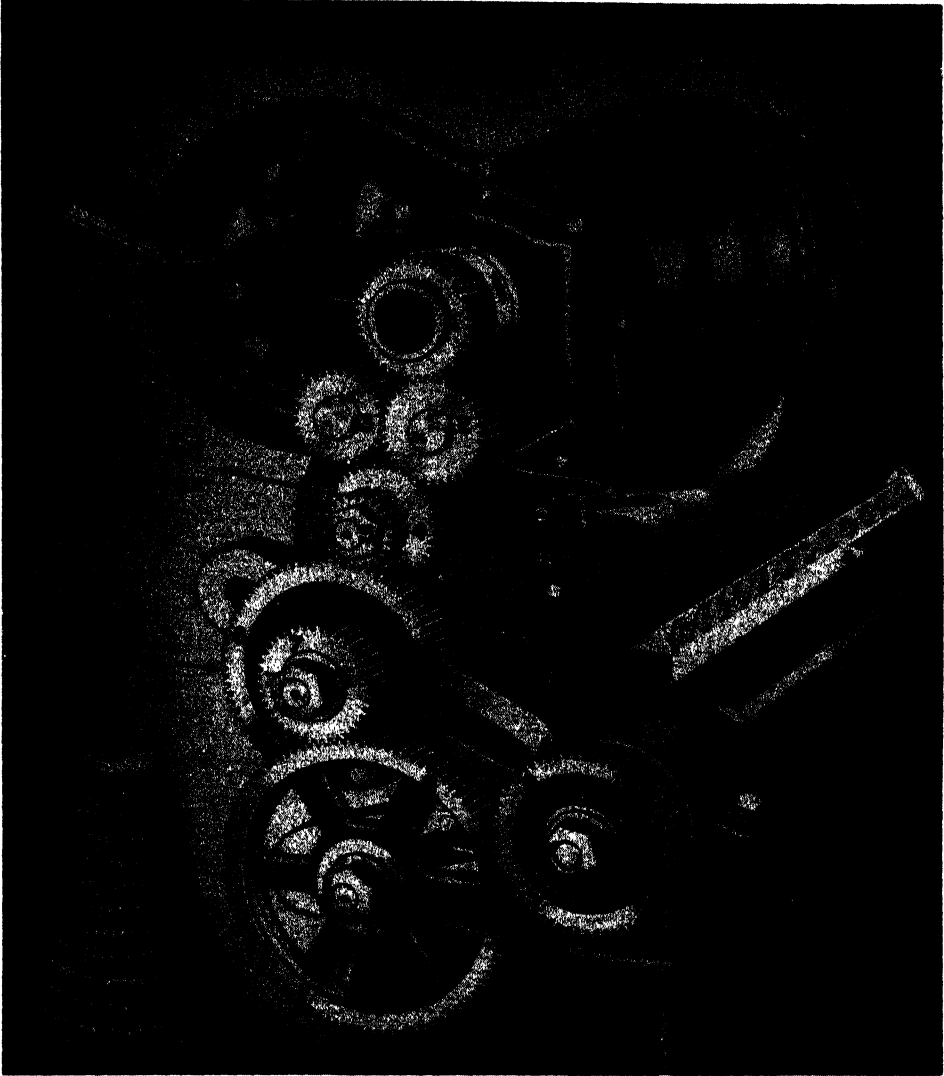

FIG. 140. ENGINE LATHE. (Courtesy, South Bend Lathe Works.)
4. On the engine lathe, Fig. 140, calculate the speed of the feed screw gear when the head stock gear revolves at 350 r. p. m. (Formula on page 137.)